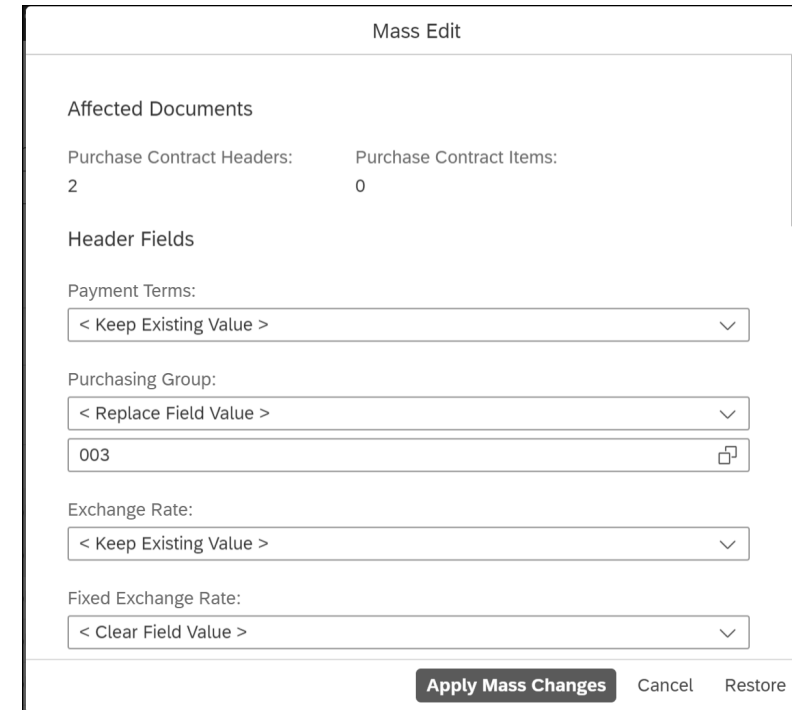

Figure 8.10 Purchase Contracts: Apply Mass Changes
- When you choose the **Replace Field Value** option, you'll be presented with a blank field to enter the new value. Once you've completed the selections and entered the new values as needed, you can press the **Apply Mass Changes** button, as shown in Figure 8.10. The fields available for changes include **Terms of Payment**, **Purchasing**